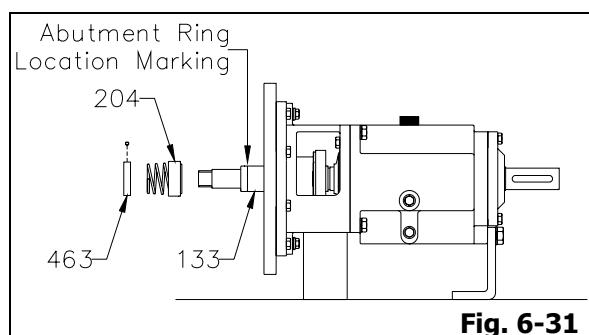

Fig. 6-31
- Remove two (2) abutment ring jam nuts from abutment ring (463). By holding shaft sleeve (133) in place, remove rotary portion of pump end mechanical seal (204) and abutment ring (463) from shaft sleeve (133) (Fig. 6-31).